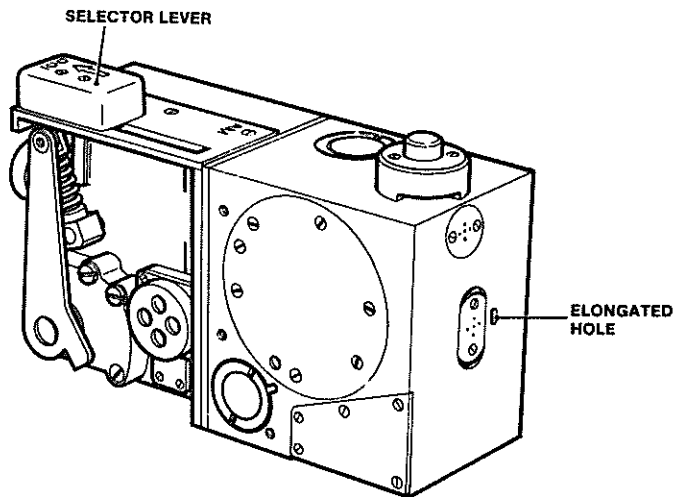

Fig 1 Type 517 Oxygen regulator
7.2.2 Operate the oxygen regulator 'press to test' button. With the button depressed verify that the dolls eye remains black and the needle of the gauge (AP 108F-0902-1, Chap 3, fig 1, item 4) remains steady, indicating no leakage of oxygen. Release the 'press to test' button.
8.12 With a finger, blank the elongated hole on the regulator (fig 1) to increase the pressure in the hose of the man portion. The flowmeter indicator will rise about 1 mm and the doll's eye should remain black. Uncover the elongated hole.